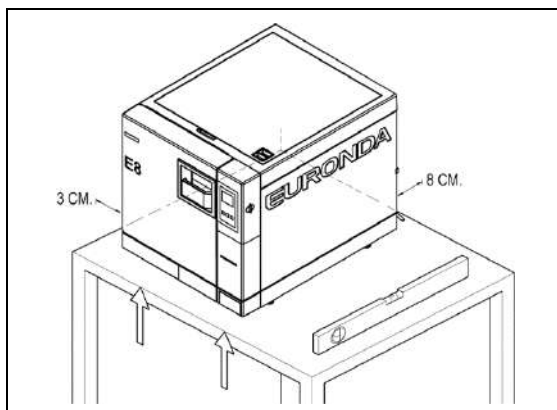

Fig. 6.1-3
- Position the unit on a flat and horizontal surface (Fig. 6.1-3).
- Leave a space of at least 8 cm on the back, and 3 cm on the sides, for air circulation and heat dispersion (Fig. 6.1-3).